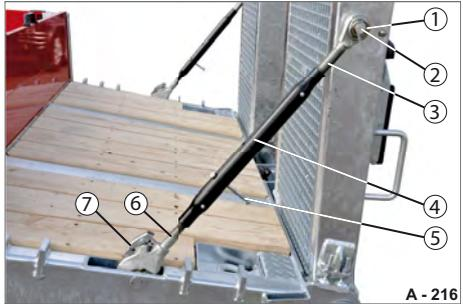

Fig. 54 Securing rod overview
- ▶ Set down the complete securing rod (Fig. 54/4) safely to avoid damage. The drive-up ramps are unlocked and can be moved to the required track width and lowered - see page 155.